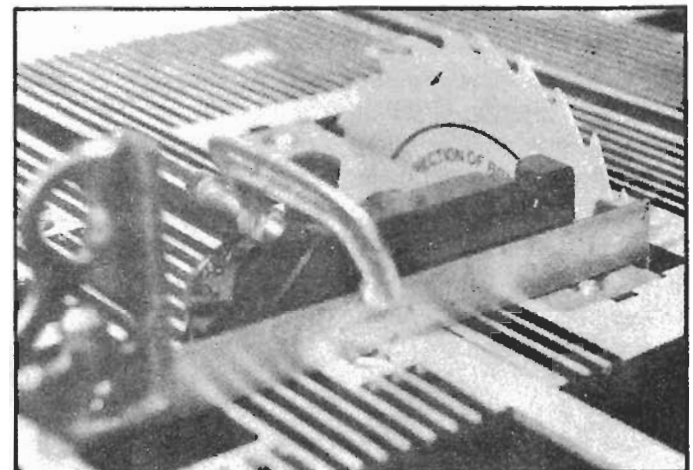

Fig. 24
4. Move the miter gage to the rear of the table as shown in Fig. 24. Check to see that the miter gage slot is the same distance away from the saw blade in the rear position as it was in the front position. Make sure the tooth marked in Step 3 is used for checking both front and rear positions.